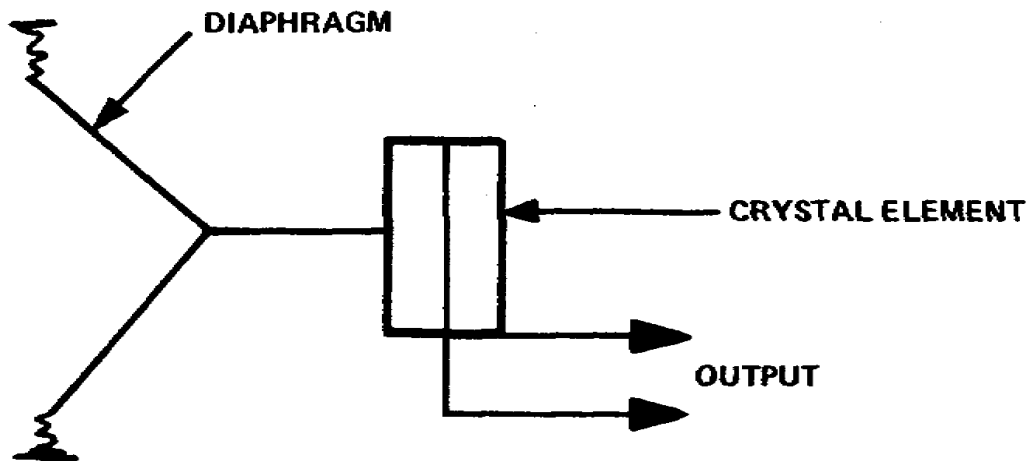

Figure 2-26. Bimorph microphone
b. The Bimorph and Sound Cell (trade names) make up the two most popular types of designs for crystal microphones (fig 2-26).